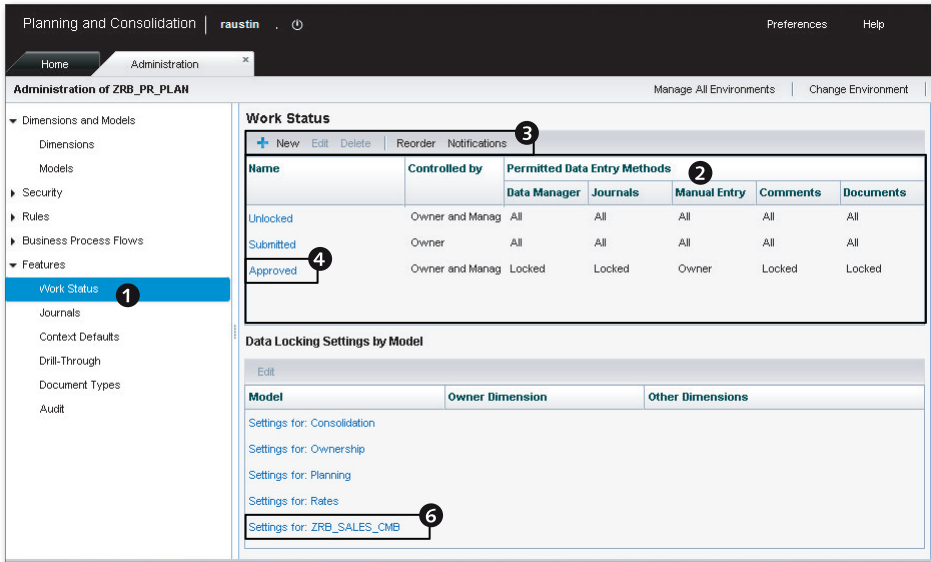
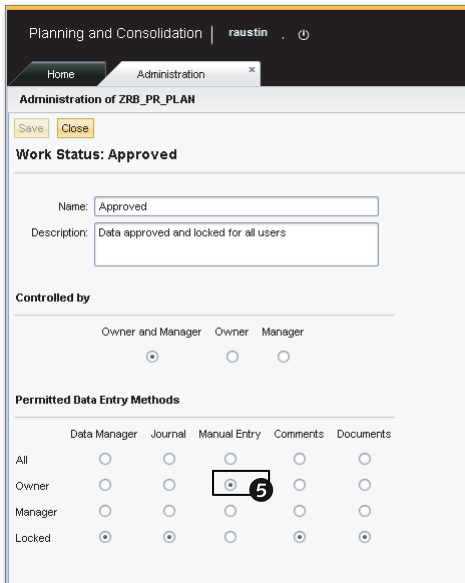
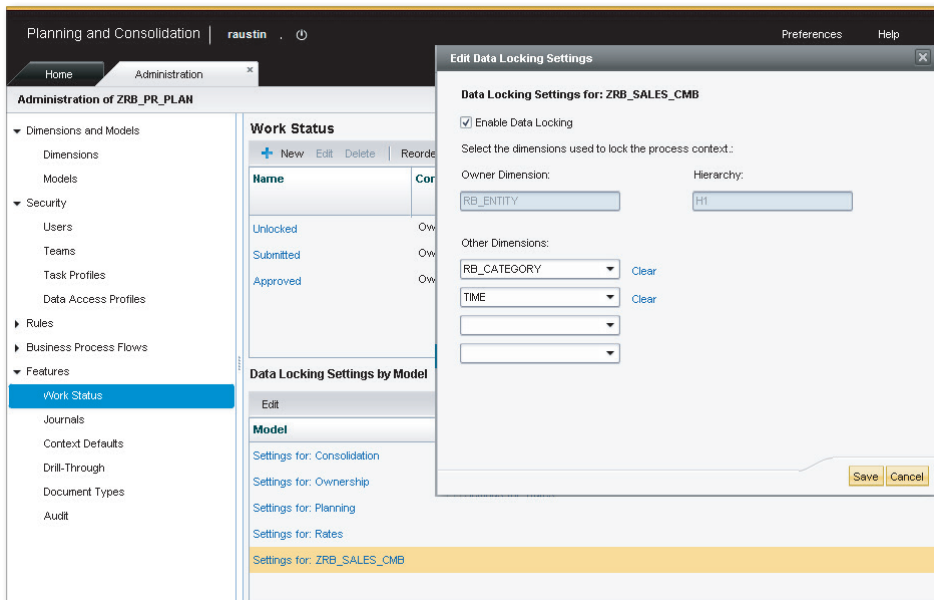

Figure 7.1 Configuring Work Status to Lock Data—Part A
Figure 7.2 Configuring Work Status to Lock Data—Part B
Figure 7.3 Configuring Work Status to Lock Data—Part C
1. Connect to the ZRB_PR_PLAN environment, and click on the WORK STATUS view under the FEATURES domain in the ADMINISTRATION workspace (Figure 7.1, ❶).
2. In the upper portion of the view, you'll see the work statuses in the rows and the activities in the columns. The intersection identifies who can update the data for the combination of work status and activity (Figure 7.1, ❷). The work status defined here applies to all of the models in the environment.
3. Above the work statuses displayed, you can see the menu options to maintain work status for an environment (Figure 7.1, ❸). You can also create a new work status using the options listed here.
4. Click on APPROVED work status to set who can update data for an activity (Figure 7.1, ❹). Select OWNER for MANUAL ENTRY (MAN) to ensure that only the owner of an entity can modify the data when the work status is set to APPROVED (Figure 7.2, ❺).
5. You will now set the work status of a model. Click on the sales model, ZRB_SALES_CMB, and identify the Category, Entity, and Time dimensions as the dimensions to be used for setting work status for the model (refer back to Figure 7.1, 6, and Figure 7.3). Check **ENABLE DATA LOCKING** to enable the work status for the model. The hierarchy to use for the Owner dimension is set here. In this case, hierarchy H1 of the RB_ENTITY dimension is used to determine the implied manager of entities. Remember that you can select a maximum of five dimensions to set work status, and you are required to set one dimension as the Owner dimension, which should include an **OWNER** property. The property ID of the dimension should read "OWNER". We selected the Entity dimension as the Owner dimension in our example.